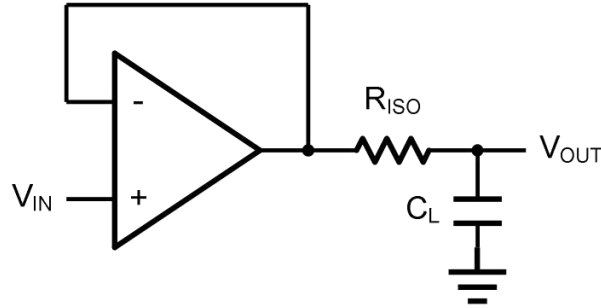
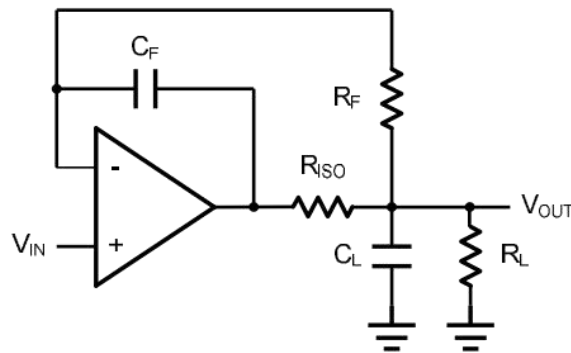

Figure 2. Indirectly Driving a Capacitive Load Using Isolation Resistor
Figure 3. Indirectly Driving a Capacitive Load with DC Accuracy
The OPA314/2314/4314 family is optimized for bandwidth and speed, not for driving capacitive loads. Output capacitance will create a pole in the amplifier's feedback path, leading to excessive peaking and potential oscillation. If dealing with load capacitance is a requirement of the application, the two strategies to consider are (1) using a small resistor in series with the amplifier's output and the load capacitance and (2) reducing the bandwidth of the amplifier's feedback loop by increasing the overall noise gain. Figure 2. shows a unity gain follower using the series resistor strategy. The resistor isolates the output from the capacitance and, more importantly, creates a zero in the feedback path that compensates for the pole created by the output capacitance.
The circuit in Figure 3 is an improvement to the one in Figure 2. RF provides the DC accuracy by feed-forward the VIN to RL. CF and RISO serve to counteract the loss of phase margin by feeding the high frequency component of the output signal back to the amplifier's inverting input, thereby preserving the phase margin in the overall feedback loop. Capacitive drive can be increased by increasing the value of CF. This in turn will slow down the pulse response.